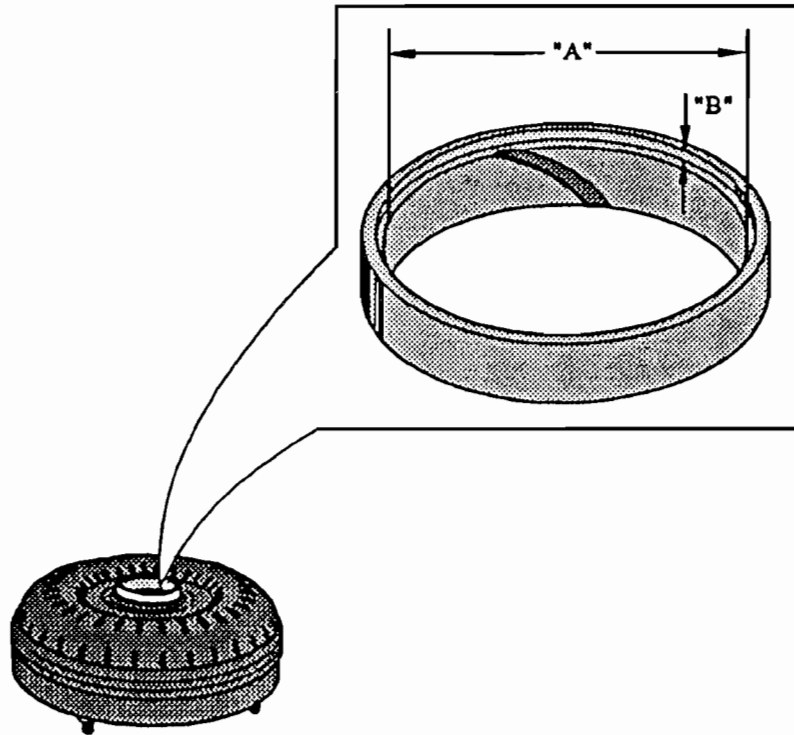
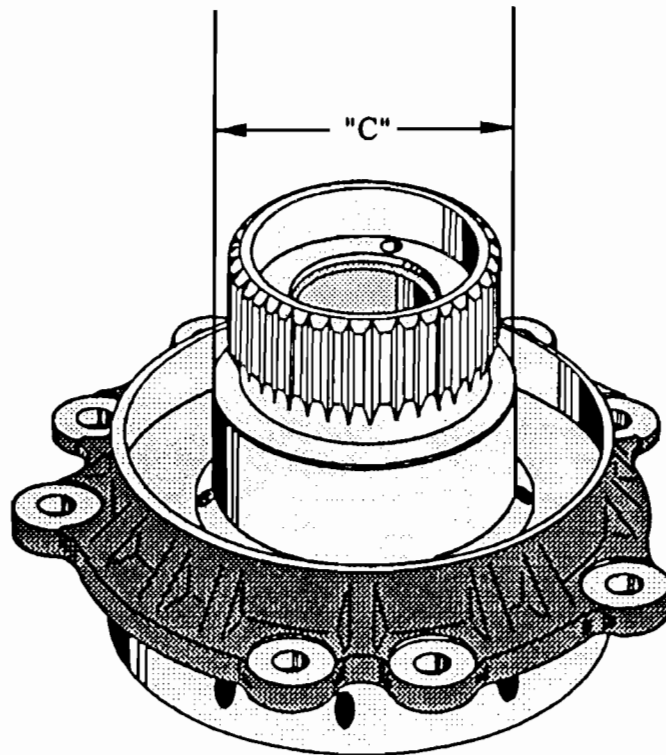

Figure 40
Figure 41
**B:** Measure dimension "A" in figure 40, then measure dimension "C" in Figure 41. Subtract C from A and ensure the difference is .003"-.006". Also check the clearance between the bushing and the top of the converter hub. The bushing should be "Recessed" approximately .078" to .125" as shown in Figure 40, dimension "B".